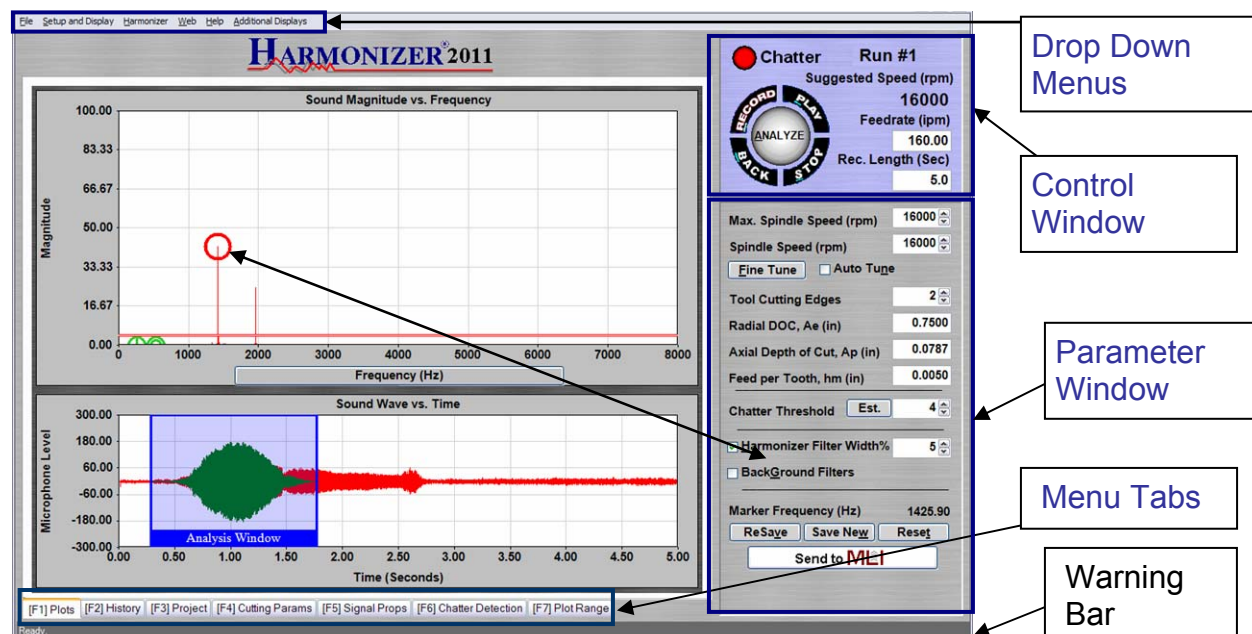

Figure 11: The plots screen as seen when first opening HARMONIZER®
Upon starting HARMONIZER® software, the Plots Screen, shown in Figure 11, will be displayed. This is the main screen that displays the most important operating parameters in three sections. On the left is the Data Display Window which shows two plots, the **Sound Magnitude vs. Frequency** (top) and the **Sound Wave vs. Time** (bottom). The right-hand side of the screen is divided into two sections, the **Control Window** at the top and the **Parameter Window** at the bottom.
The **Sound Magnitude vs. Frequency** (top plot in Figure 11) displays the Fast Fourier Transform (FFT) of the sound data displayed in the **Sound Wave vs. Time** plot (bottom plot in Figure 11).
- The **Drop Down Menu** at the top left of the screen (Figure 11)
- The **Menu Tabs** at the bottom of the screen (Figure 11), or
Harmonizer Filter Width: This selection turns on (green check mark) or off the spindle filters. If the spindle harmonic filters are not enabled HARMONIZER® will not estimate a chatter threshold. A warning will be displayed in the Warning Bar, Figure 11
Marker Frequency (Hz): Displays the Frequency value for the Marker, see Figure 11.
- The Drop Down Menus at the top left of the screen (Figure 11)
- The Menu Tabs at the bottom of the screen (Figure 11), or
The [\[F1\] Plots](#) returns the user to the main screen which displays the Sound Magnitude vs. Frequency (top plot in Figure 11) and the Sound Wave vs. Time plot (bottom plot in Figure 11). The Sound Magnitude vs. Frequency displays the Fast Fourier Transform (FFT) of the sound data displayed in the Sound Wave vs. Time. The Sound Wave vs. Time displays the recorded sound level versus time.